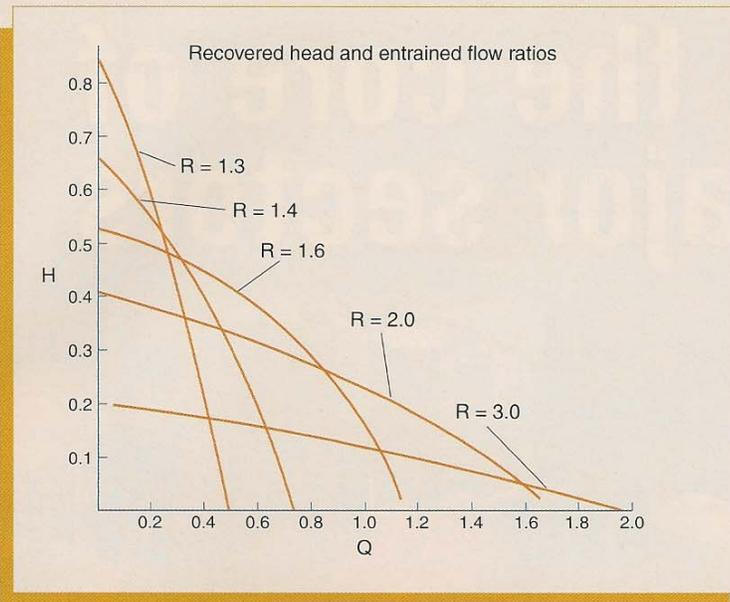

Figure 5. Relationship between recovered head and drive pressure.
Fig. 5 gives the relationship between the drive pressure and the recovered head. The recovered head is that pressure measured at discharge end of the taper, just as with any centrifugal pump with which we are all familiar. This is designated **H**. The recovered head is always less than the drive head. Typically only 30% of the drive pressure is seen at the discharge of the eductor pump.
2. Select an **R** ratio curve in the middle of Fig. 5 and select a point on that curve near a b.e.p.
11. When handling viscous materials (9) also applies. This is an energy transfer device like a centrifugal pump.